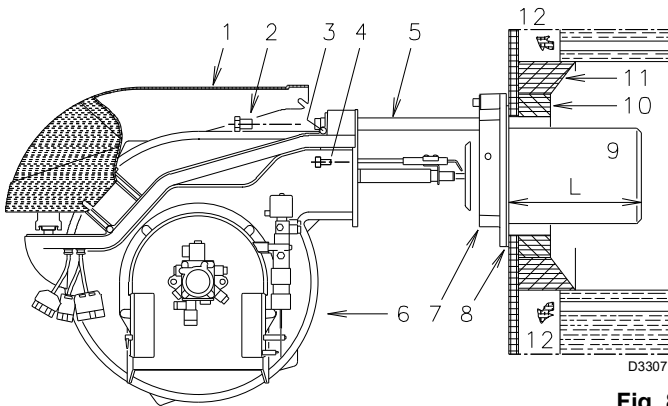

Fig. 8
5.4 Blast tube length (Fig. 8)
For boilers having a water-cooled front the refractory fettling 10)-11)(Fig. 8) is not required unless it is expressly requested by the boiler manufacturer.
Disassemble the blast tube 9)(Fig. 8) from the burner 6) by proceeding as follows:
Once this operation has been carried out (if it was required), secure flange 7)(Fig. 8) to the boiler plate interposing the supplied gasket 8). Use the 4 screws provided after having protected the thread with anti-seize products (high-temperature grease, compounds, graphite).
- Retract the burner on its slide bars as shown in (Fig. 8 page 12).